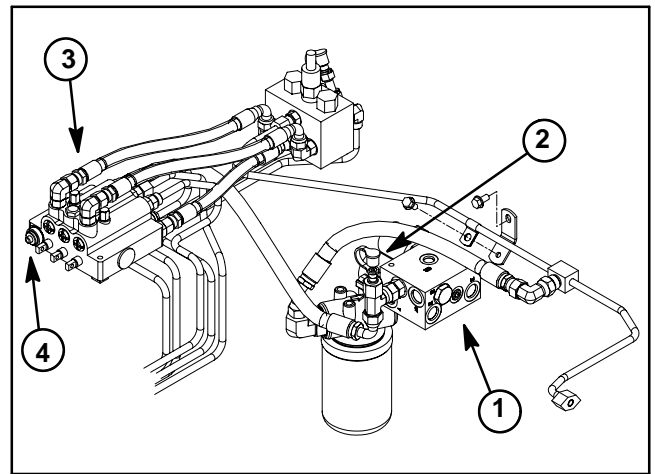

Figure 41
3. Raise seat to gain access to hydraulic test fitting. Connect a 5,000 PSI (345 bar) gauge to lift circuit test port (Fig. 41). Route gauge hose to allow seat to be safely lowered.